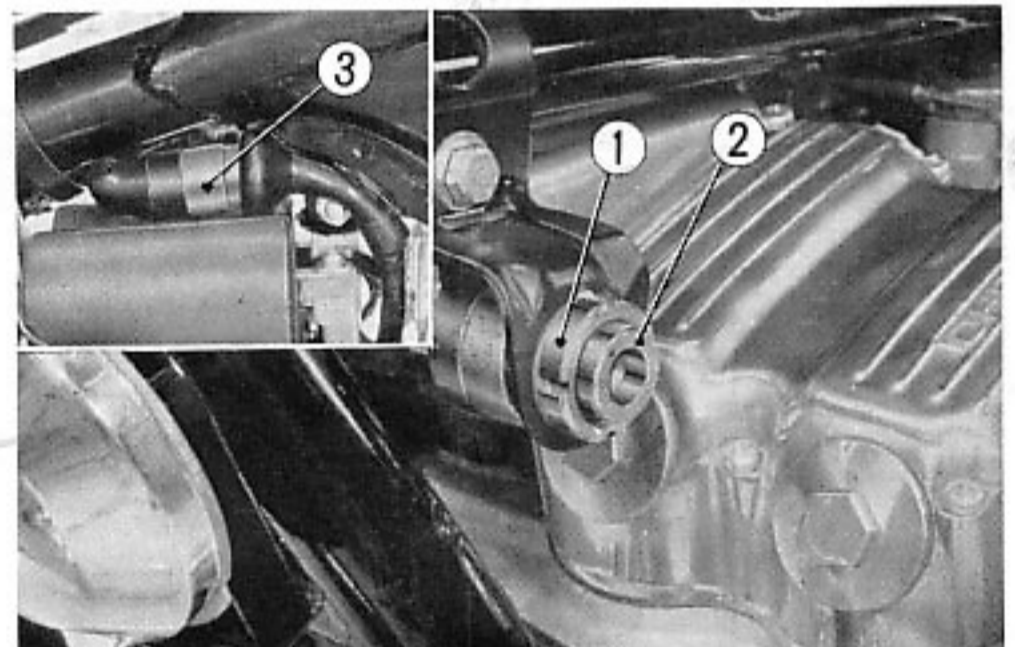

Fig. 3 ① Lock nut ② Main ignition switch ③ Coupler
1. Loosen the main ignition switch lock nut and remove the switch from the switch bracket. (Fig. 3)